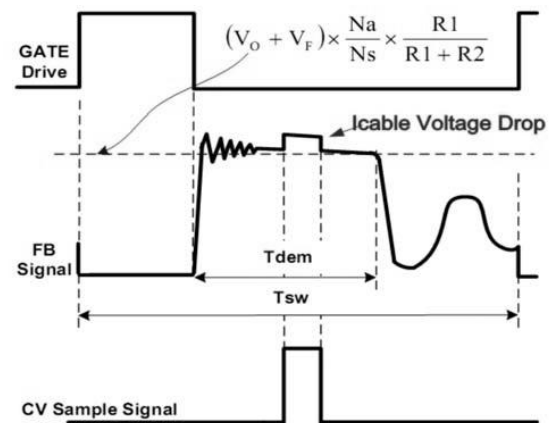

Fig.2
In primary side control, the output voltage is sensed on the auxiliary winding during the transfer of transformer energy to the secondary. Fig.2 illustrates the CV sampling signal timing waveform in U6116. As shown in Fig.2, it is clear that there is a down slope representing a decreasing total rectifier V_f and its voltage drop as the secondary current decreases to zero. To achieve an accurate representation of the secondary output voltage on the auxiliary winding, the CV sampling signal blocks the leakage inductance reset and ringing. When the CV sampling process is over, the internal sample/hold (S&H) circuit captures the error signal and amplifies it through the internal Error Amplifier (EA). The output of EA is sent to the Primary Side Constant Voltage Modulator (PS-CVM) for CV control. The internal reference voltage for EA is trimmed to 2V with high accuracy.
During the CV sampling process, an internal variable current source is flowing to FB pin for Cable Drop Compensation (CDC). Thus, there is a step at FB pin in the transformer demagnetization process, as shown in Fig.2. Fig.2 also illustrates the equation for "demagnetization plateau", where V_o and V_F is the output voltage and diode forward voltage; R_1 and R_2 is the resistor divider connected from the auxiliary winding to FB Pin, N_s and N_a are secondary winding and auxiliary winding respectively.